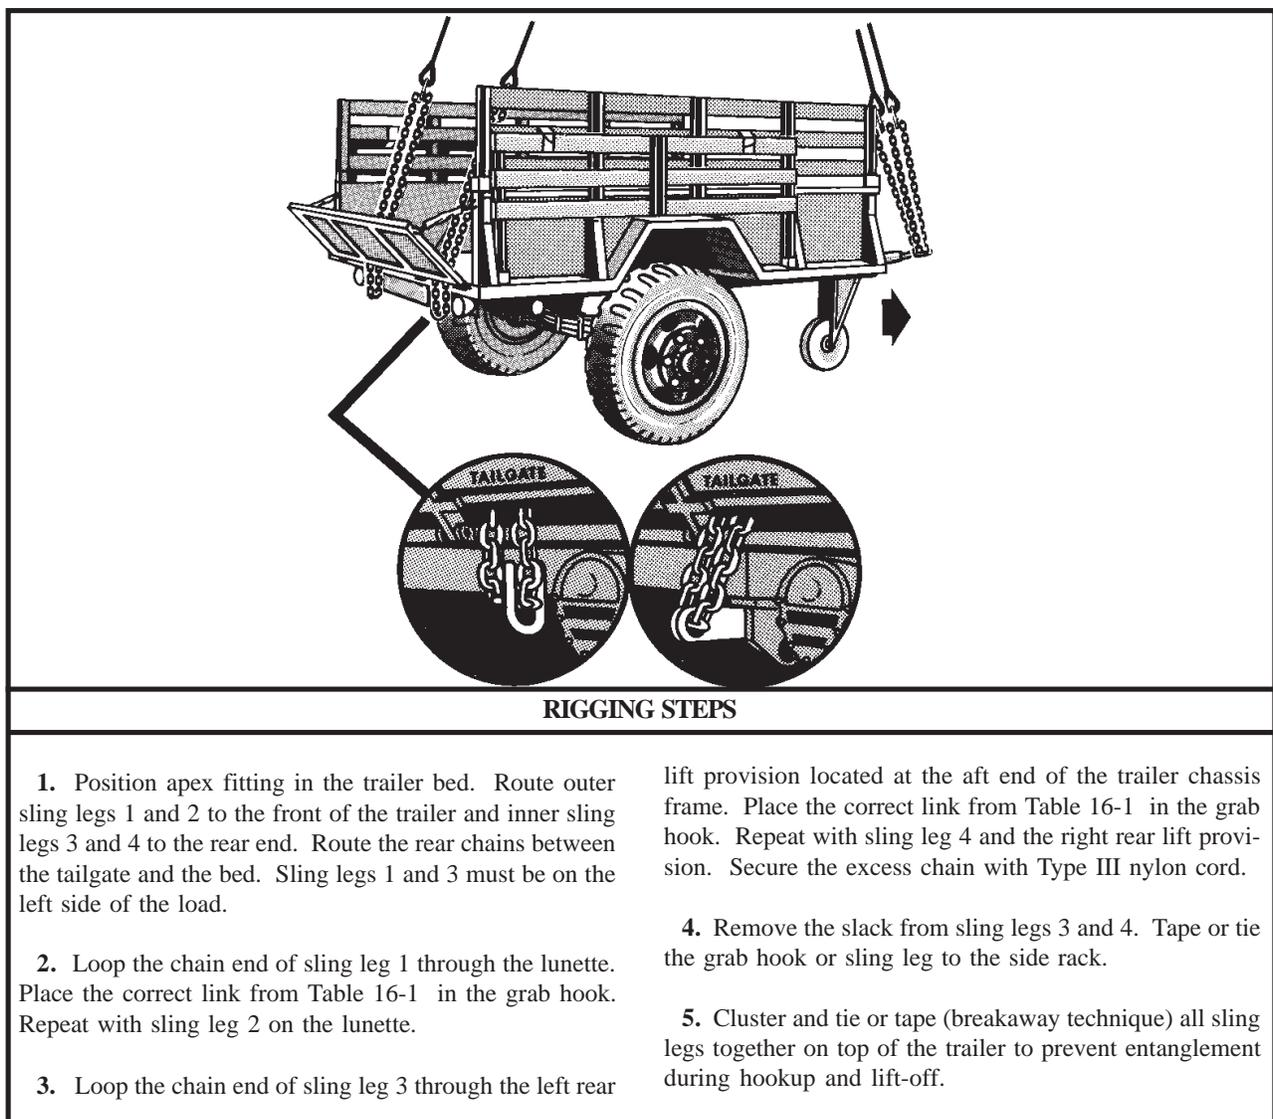

Figure 16-1. M105 1 1/2-Ton Trailer
(2) **Rigging.** Rig the load according to the steps in Figure 16-1.
(4) **Derigging.** Derigging is the reverse of the preparation and rigging procedures in steps d (1) and d (2).